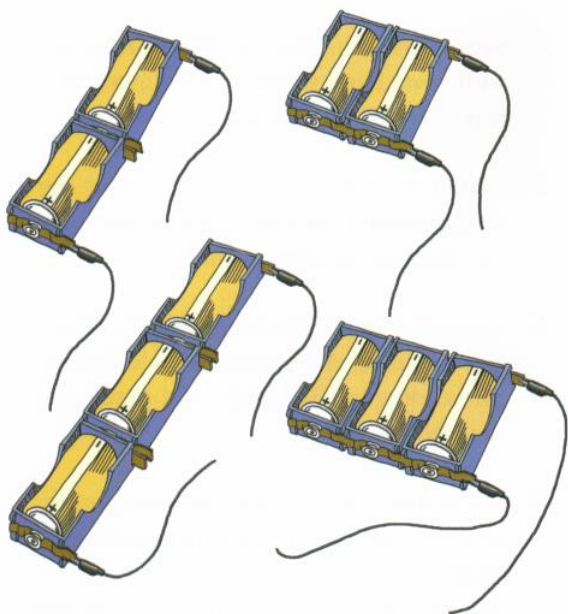

Figure 7.2 Some possible ways to connect the batteries
B. If you use more than one battery, do you think the way the batteries are connected will matter? (Figure 7.2 shows different battery arrangements.)